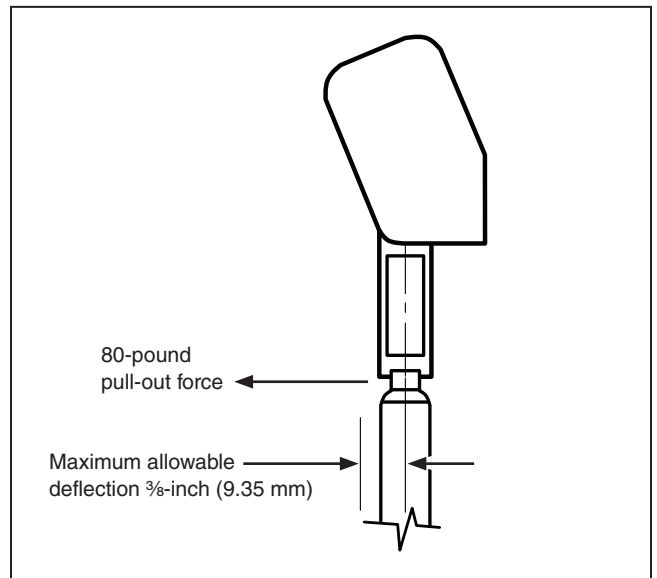

Figure 16. Maximum allowable pull-out force and deflection.
- STEP 2.** Check for proper blade closure by manually pulling the blade assembly away from its closed position. See Figure 16. With a pull-out force of approximately 80 pounds applied at the point indicated, no more than  $\frac{3}{8}$ -inch (9.35 mm) of blade deflection should occur.